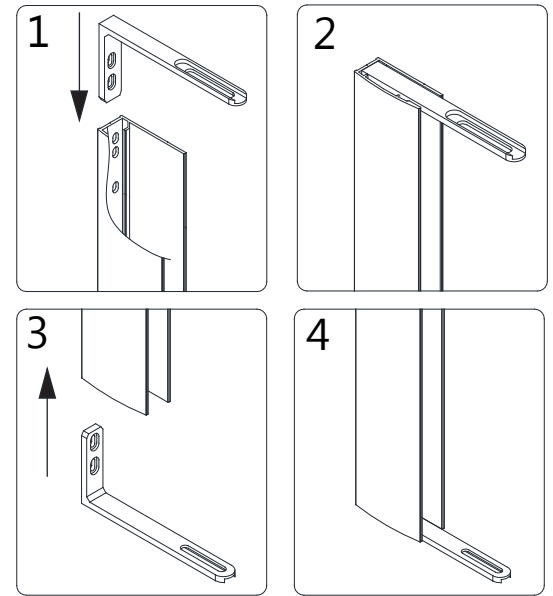

Fig 2
2. Separate the Pivot Retainers (#08) from the Pivot Assemblies (#07) by removing the Round Head Socket Bolt M6×12 (#17). Insert the Pivot Retainers (#08) into both ends of the Wall Profile for Pivot Side (#01). (Fig 2)